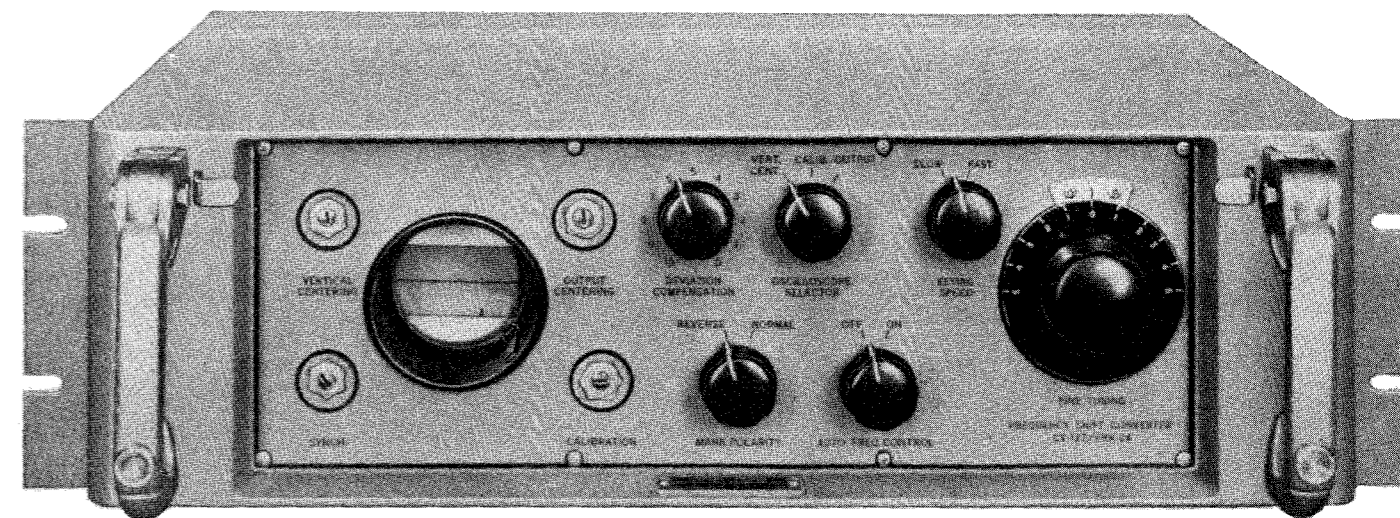

Figure 1-19. Frequency Shift Converter CV-127/FRR-24
(10) FREQUENCY SHIFT CONVERTER CV-127/FRR-24. (See Figures 1-19 and 1-20).—The purpose of this unit is to convert frequency-shift signals received from the R.F. Amplifier AM-454/FRR-24 to Mark and Space voltages for application to the Comparator-Keyer CM-32/FRR-24. This latter unit is used to actuate a teletypewriter or other similar terminal equipment.